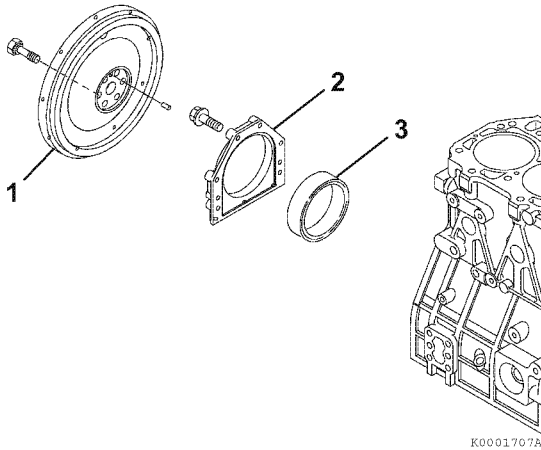

Figure 6-57
1. Remove the flywheel (**Figure 6-57, (1)**) from the crankshaft.
2. Remove the bolts from the rear oil seal assembly (**Figure 6-57, (2-3)**). Remove the assembly from the engine.